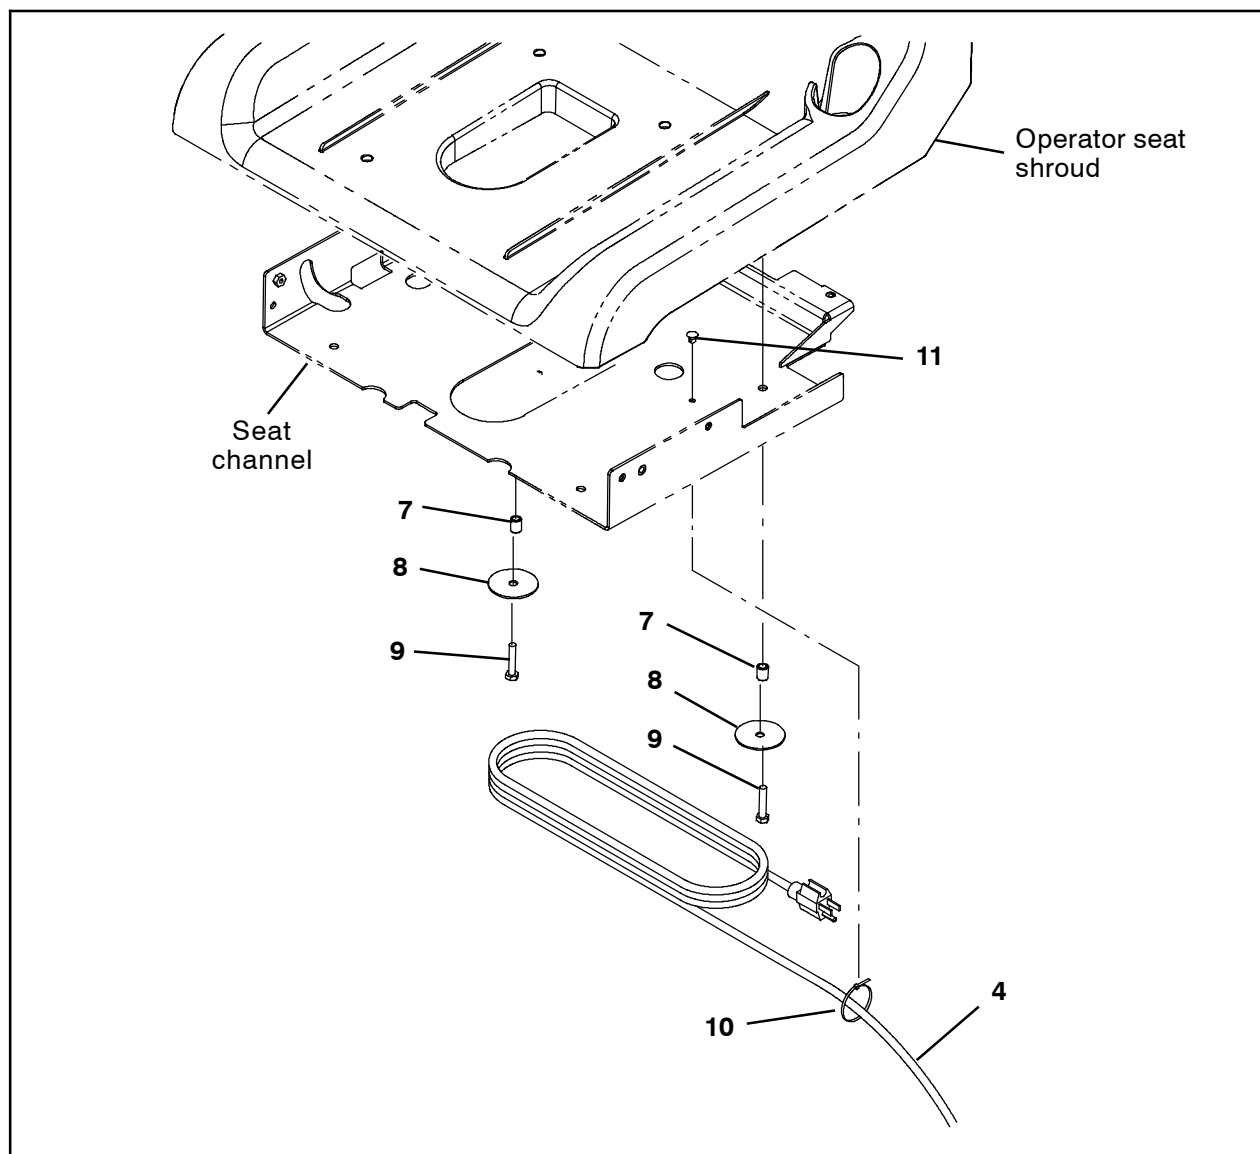

FIG. 4
13. Use a M8 hex screw (9) to install each flat washer (8) and sleeve (7) onto the bottom of the seat channel. (Fig. 4)
14. Loosen the hardware securing the operator seat shroud to the seat channel enough to be able to install the tie clip (11) into the seat channel in the following step.
15. Insert the tie clip (11) into the seat channel. (Fig. 4)
17. Insert the cable tie (10) into the tie clip (11) and use the cable tie to secure the charger power chord (4) to the seat channel. (Fig. 4)